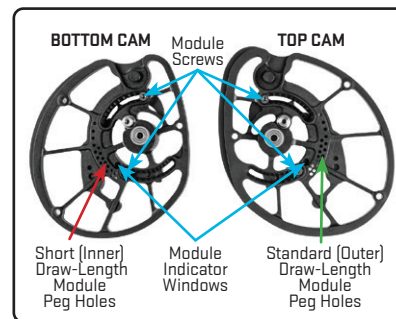

Fig. B-1
**HBX Cam Series:** The top and bottom cams have modules which must be adjusted to the same position when adjusting the draw length. To adjust draw length on both cams, loosen the module screws 2.5 turns using a T15 Torx wrench (see **Fig. B-1**). Pull the modules away from the cam surface to disengage the peg from the hole. With the locating pegs disengaged, the modules are free to slide to a different draw length position. Rotate both top and bottom modules to the desired position,
verify that desired module positions match by using the module indicator windows (see **Fig. B-1**), and then push them back to the cam, making certain that the locating peg is seated in the corresponding hole. Tighten the module screws to secure the modules in place. (Do not over tighten. Factory Setting = 15 in. lbs.) The HBX Cam Series comes with two module options for standard draw length range and short draw range. The standard module length range utilizes the outer module peg holes (see **Fig. B-1**).